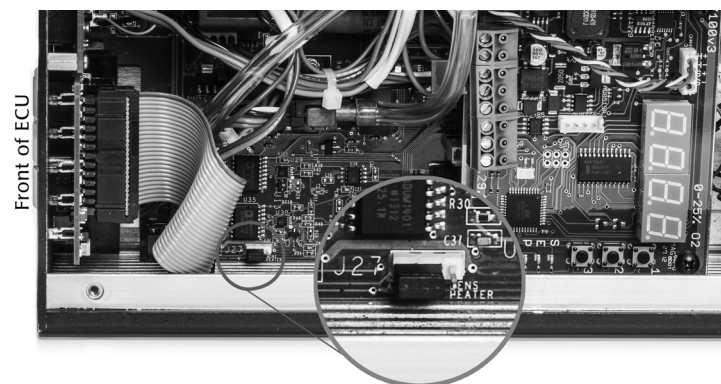

Fig. 59—On new ECUs (version 2.5 or newer, 2014) reposition the J27 jumper to configure the hardware for a lens heater. This board is configure for an AirTherm.
- If your controller is newer than version 2.5, locate the **J27** jumper. By default it is set to **Aux** (covering the left and center pins) as shown in Fig. 59. To set the hardware to **Lens Heater**, position the jumper over the center and left pins.